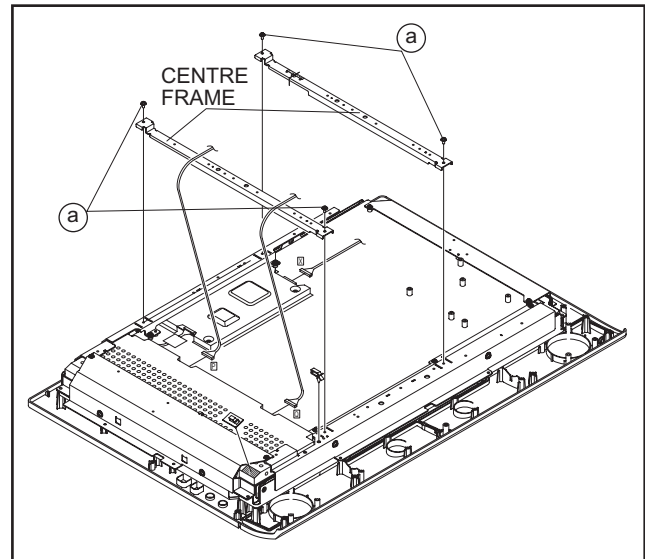
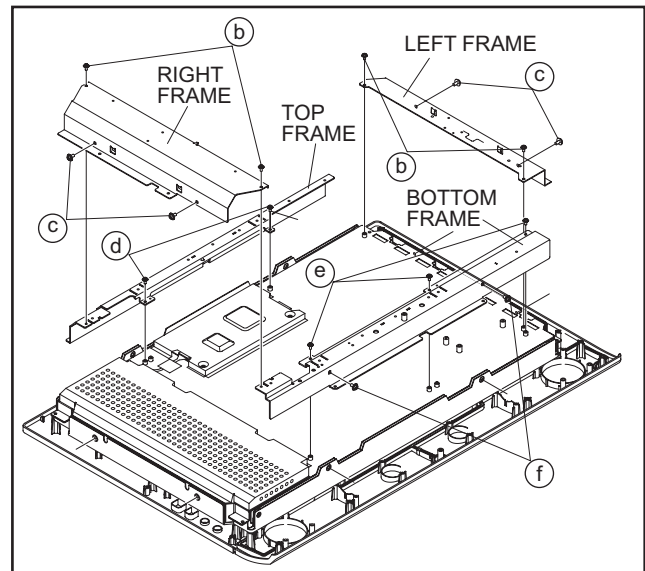
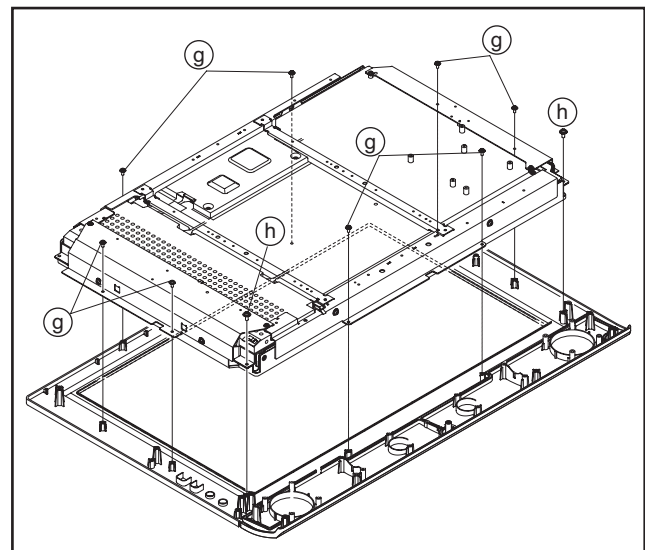

Fig.3-1-10A
Fig.3-1-10B
Fig.3-1-10C
3.1.10 REMOVING THE LCD PANEL (Fig.3-1-10C, Fig.3-1-10A, Fig.3-1-10B)